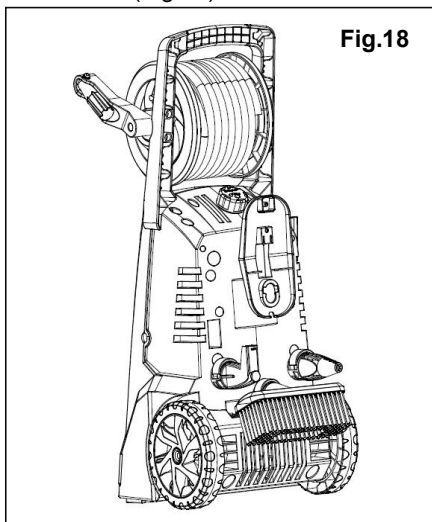

Fig.18
3. Storage the power cord, nozzles, brush on washer unit (Fig.18).